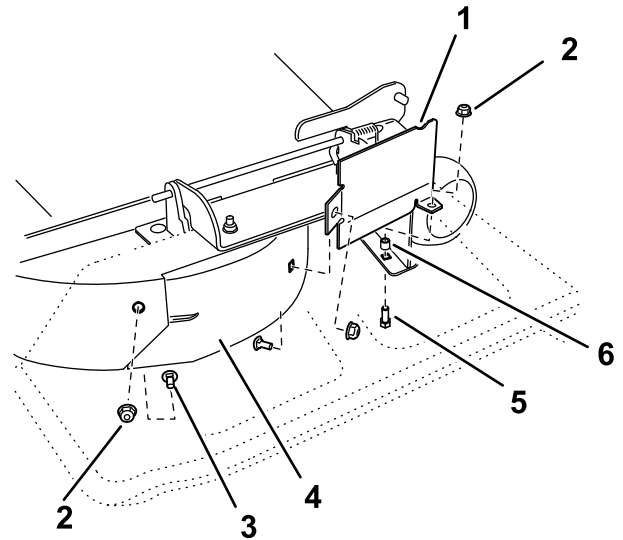

Figure 11
3. For TimeCutter HD machines, install the baffle guard using 1 carriage bolt (5/16 x 3/4 inch), 1 spacer, and 2 nuts (5/16 inch) as shown in Figure 11.
4. Secure the rear wall of the right baffle to the mower deck using 1 carriage bolt (5/16 x 3/4 inch) and nut (5/16 inch) as shown in Figure 11.